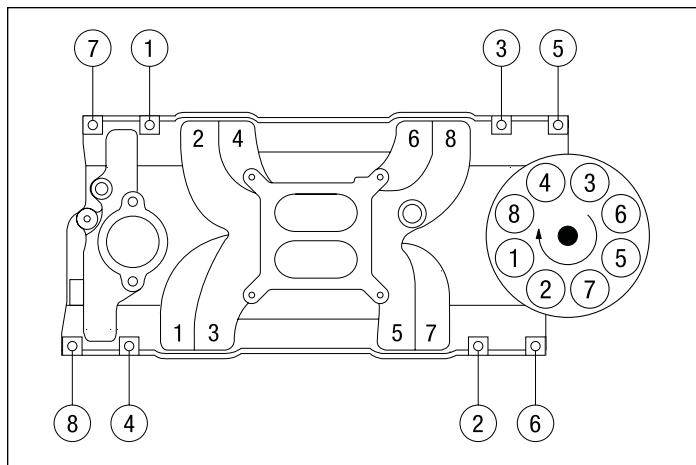

Figure 3 - Vortec/E-Tec Manifold Bolt Torque Sequence
- 5b. Install the intake manifold and hold-down bolts. On applications with Vortec or E-Tec cylinder heads, torque all of the manifold bolts in two steps by the sequence shown in **Figure 3** to 11 ft/lbs